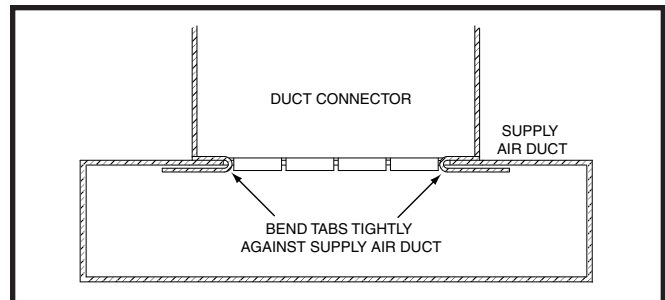

Figure 9. Duct Connector Tabs
8. Bend both tabs on the mounting plate up 90° as shown in Figure 9.